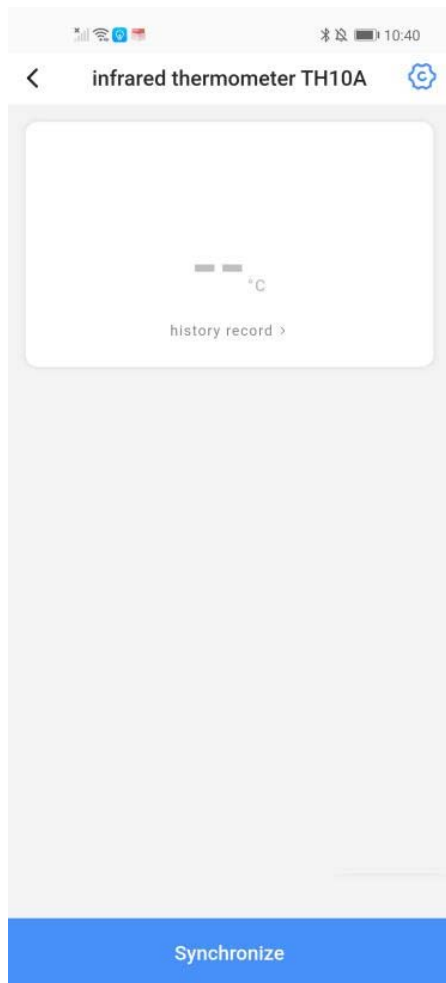
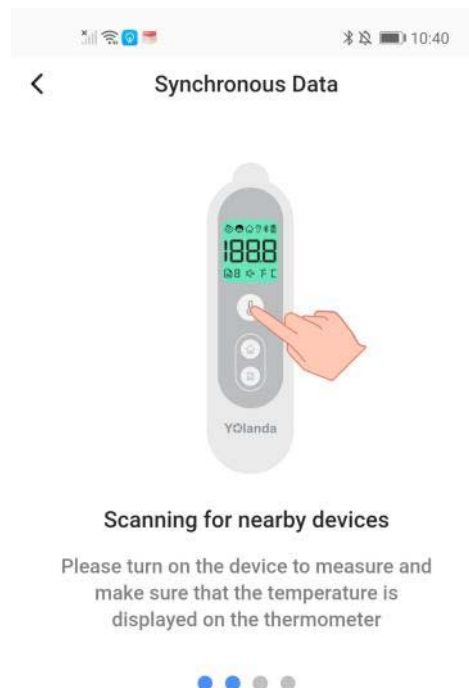

Fig.14
Fig.15
- 2) Click the "O" next to "temperature" on Fig.13, it will jump to Fig.14 interface.
- 3) Click "Synchronize" on Fig.14 and wait for the device to connect. The connection status is as shown in Fig.15
- 4) Power on your thermometer and measure the temperature according to the Fig.15 prompts. When the temperature value is displayed on your thermometer after the measurement, the app will automatically search your thermometer, the APP will jump to Fig.16 if it successfully connect to the your thermometer(at the same time, the LCD will display the Bluetooth icon).